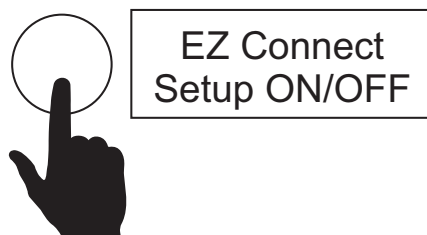

Figure 122. EZ Connect Setup ON/OFF Button
- Press the **EZ Connect Setup ON/OFF** button (Figure 122).